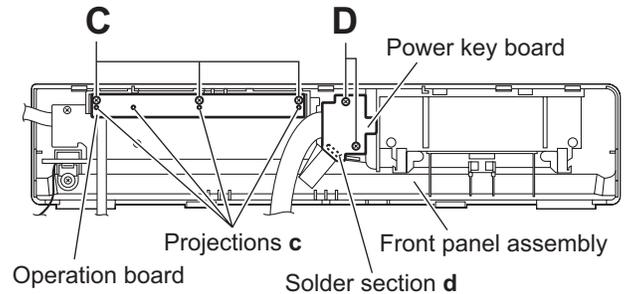

Fig.2
3.2.3 Removing the operation board (See Fig. 2)
- (2) Take out the operation board.
3.2.4 Removing the power key board (See Fig. 2)